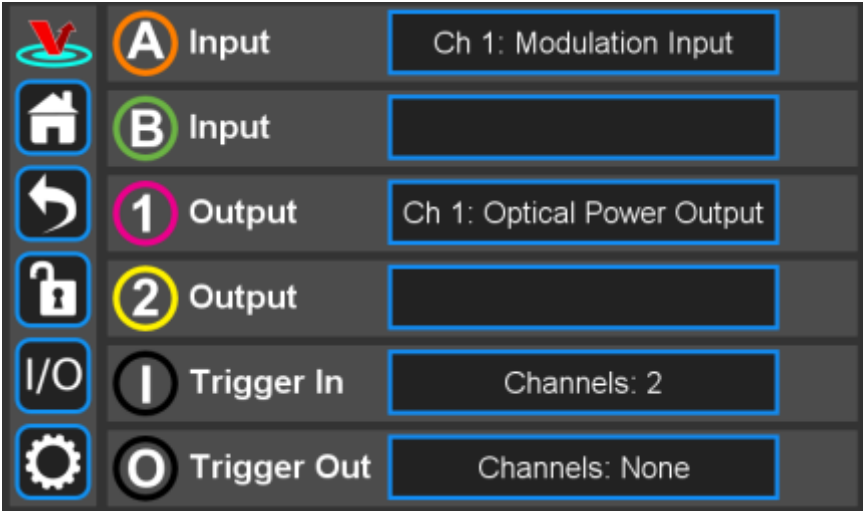
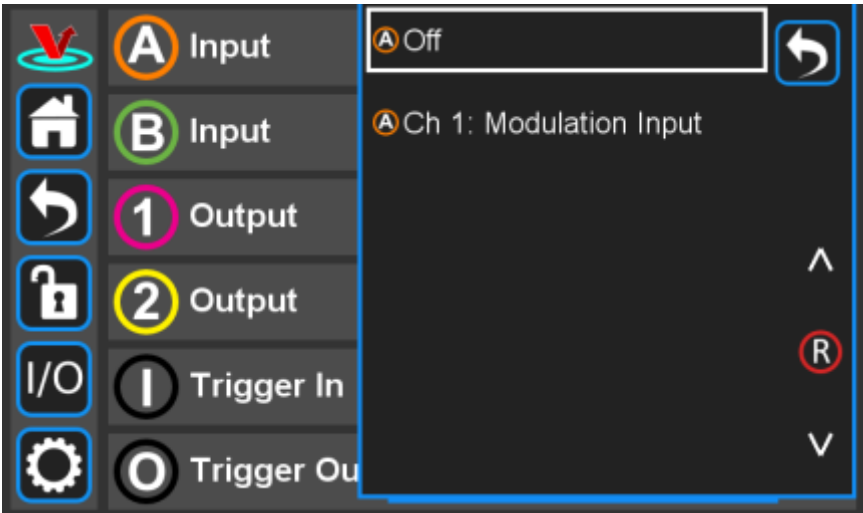
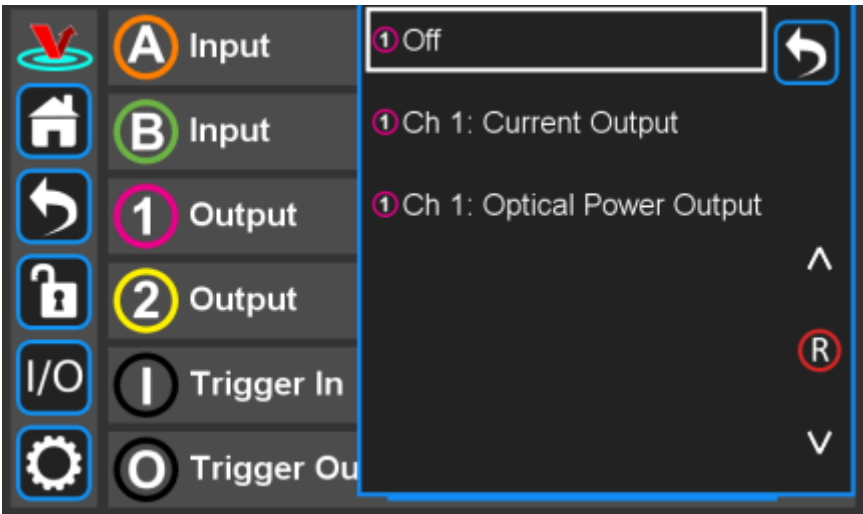

Fig. 28: I/O programming window
Fig. 29: Input choice for front-panel input
Fig. 30: Output choices for front-panel input
The SLICE-DCC has two programmable inputs (labelled A & B) and two programmable outputs (labelled 1 and 3) on the front panel. It also has a rear panel trigger input and trigger output. Touching the I/O window on the control bar will open a screen similar to that seen in figure 28, From here, it is possible to assign control information input to the two inputs and system performance data to the two outputs,
From figure 28, if one touches either the A or B input window, the choices for input for that channel are presented (figure 29).
The only input option is a modulation signal. The SLICE-DCC can respond to a modulation or control signal over a bandwidth of DC to 1 MHz. Only one of the two modulation input ports (rear-panel SMA, figure 3, item 9 or front-panel BNC, figure 2, item 2) can be active at any given time. Activating the front-panel input via the screen in figure 29 automatically disconnects the rear-panel input.
From figure 28, if one touches either the 1 or 2 output window, the choices for output for that channel are presented (figure 30).